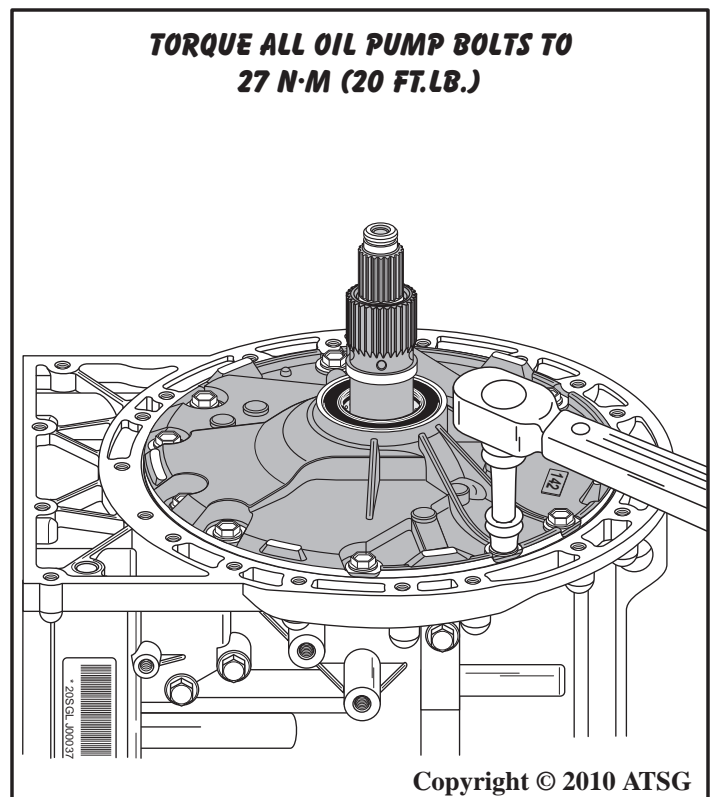

Figure 228
52. Torque all ten of the oil pump retaining bolts to 27 N·m (20 ft.lb.) using a criss-cross pattern, as shown in Figure 228.